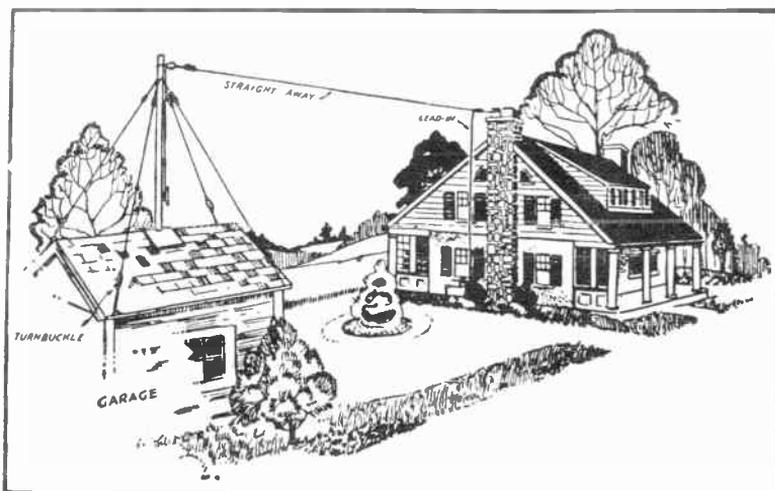

FIG. 1. A simple, effective Antenna System
The straight-away shown in Fig. 1 picks
*Position of the Straight-Away.* Study Fig. 1 carefully. It appears possible to run the straight-away either from the chimney to the garage or from the chimney to the tall tree. The room in which the receiver is to be located definitely decides which position of the straight-away is the more desirable.